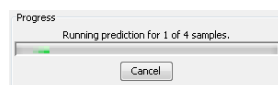

Figure 168 Progress dialog box
- b Click **Next**. Your class prediction model is immediately run to classify the validation data files. A **Progress** dialog box is displayed during the classification (Figure 168).